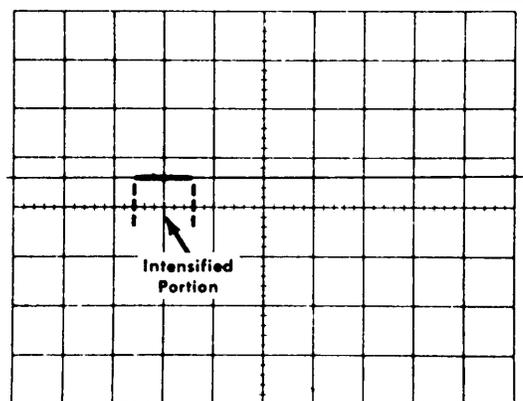

Fig. 6-22. Typical CRT display showing correct intensifier circuit operation.
- f. An intensified portion should appear on the trace (see Fig. 6-22). If the display appears only as a shortened trace, increase the INTENSITY setting slightly until the complete trace, showing on intensified portion, appears.